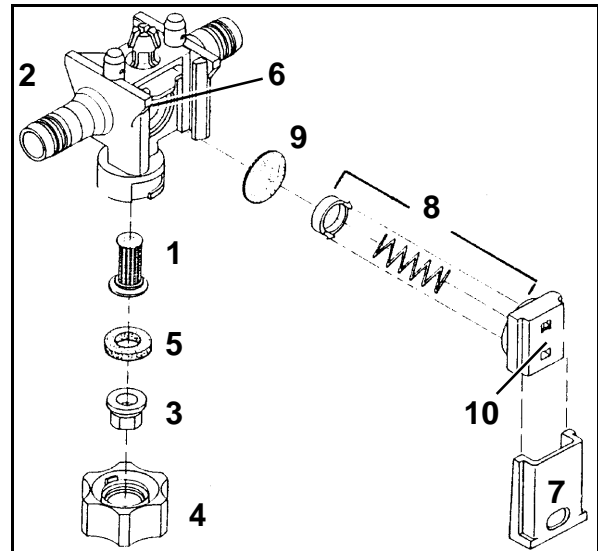

Fig. 223
1. From time to time check seat of tapered slide (Fig. 223/7). For this push the slide into the nozzle body (Fig. 223/2) as far as it is possible with slight pressure of your thumb. By no means push the slide into the nozzle body until its stop when it is new.
1. The nozzle filter (Fig. 223/1) is placed from below into the nozzle carrier (Fig. 223/2).
2. Place the nozzle (Fig. 223/3) inside the bayonet cap (Fig. 223/4).
3. Place the rubber seal ring (Fig. 223/5) above the nozzle.
Cause for dripping of the nozzles at a shut off boom feed is residue on the diaphragm seating (Fig. 223/6). Therefore the corresponding diaphragm should be cleaned as follows:
1. Pull out the slide (Fig. 223/7) from the nozzle carrier (Fig. 223/2) in direction of the bayonet cap.
2. Remove the spring element (Fig. 223/8) and the diaphragm (Fig. 223/9).
3. Clean the diaphragm seating (Fig. 223/6).
Pay attention to the correct fitting directions of the spring elements. The edges on the spring element housing (Fig. 223/10) are offset on the right and left hand side and should rise in direction of the boom profile when fitting.